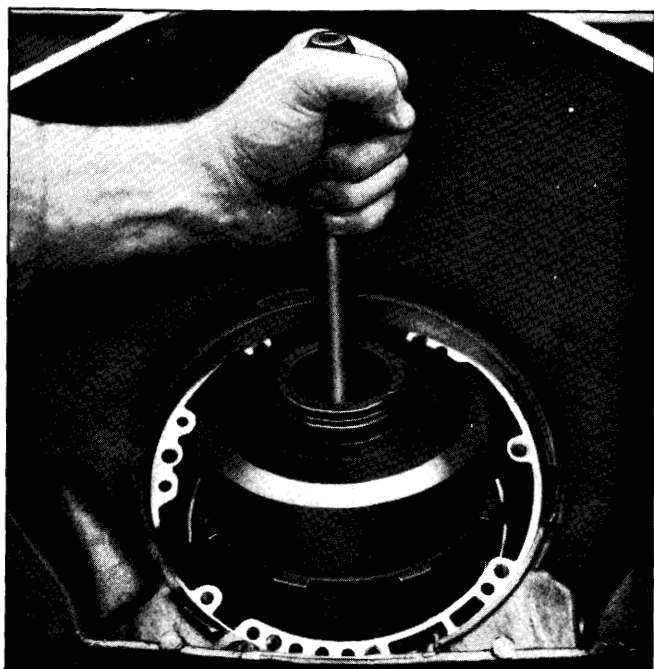

Fig. 7-38—Removing Direct and Forward Clutch Assemblies
6. Remove direct and forward clutch assemblies from case. (Fig. 7-38) Refer to disassembly and reassembly of the direct and forward clutches.